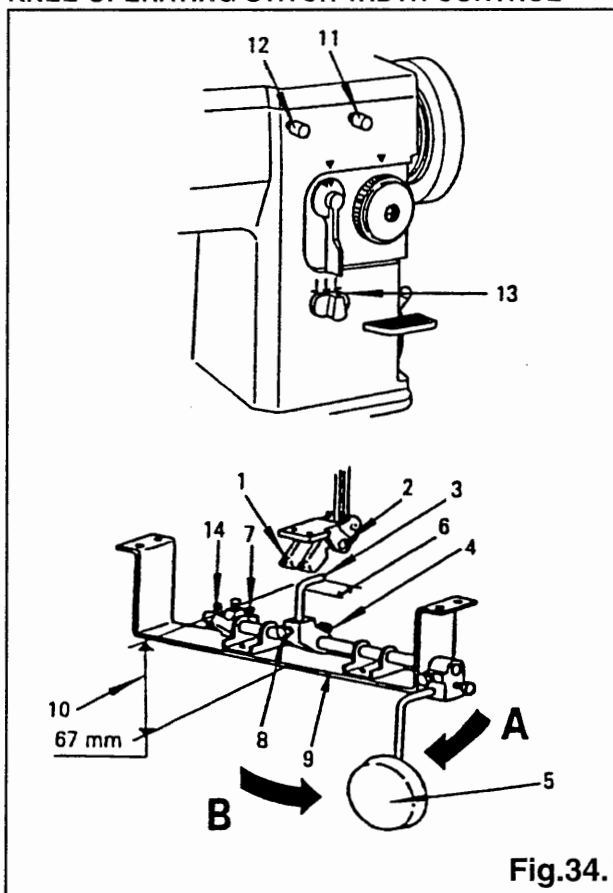

Fig.34.
Bell cranks (1) and (2) shown in Fig.34 are fastened to the underside of the bed. Bell crank (1) is used for lifting and lowering the presser foot with knee and bell crank (2) is used for controlling the stitch width.
To control the stitch width with knee, loosen screw (4) holding the knee lifter shaft arm (3) and move knee lifter shaft arm (3) just under the bell crank (2) and firmly tighten screw (4) (see Fig.34).
Loosen the lock nut holding screw (7) and turn screw (7) as required, so that the bent end (6) of knee lifter shaft arm (3) will be almost horizontal when knee lifter knee plate (5) is pushed as far as it will go in the direction indicated with arrow (A). Then firmly tighten the lock nut (see Fig.34).
With knee lifter shaft arm (3) set in position as described above, loosen screw (8) and move knee lifter shaft arm (3) up or down as required, so that height (10) from its bent end (6) to bracket (9) is 67 mm (see Fig.34).
Loosen stitch width regulating plate thumb screws (11) and (12) so that stitch width regulator (13) can be moved from zero to maximum stitch width. (20U73/73B: 9mm, 20U83/83B: 12mm) (see Fig.34). Loosen the lock nut holding screw (14) and turn screw (14) as required, so that knee lifter knee plate (5) when pushed in the direction indicated with arrow (B), will stop at the maximum stitch width position of stitch width regulator (13). Then firmly tighten the lock nut (see Fig.34).
Stitch width will become wider when knee lifter knee plate (5) is pushed in the direction indicated with arrow (B) and will become smaller when knee plate is released (see Fig.34).